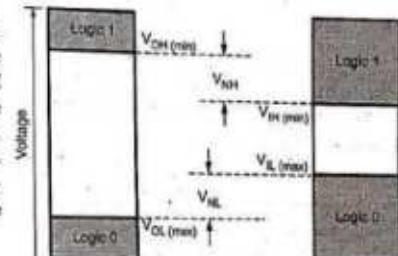

Fig. 3.2.2 Noise margins
- The noise immunity of a logic circuit refers to the circuit's ability to tolerate the noise without causing spurious changes in the output voltage. To avoid this problem due to noise, voltage level  $V_{IH(\min)}$  is kept at a few fraction of volts below  $V_{OH(\min)}$  and voltage level  $V_{IL(\max)}$  is kept above  $V_{OL(\max)}$ , at the design time. This is illustrated in Fig. 3.2.2.
- As shown in Fig. 3.2.2,  $V_{NH}$  is the difference between the lowest possible HIGH output,  $V_{OH(\min)}$  and the minimum voltage,  $V_{IH(\min)}$  required for a HIGH input. This voltage difference,  $V_{NH}$  is called high-state noise margin.